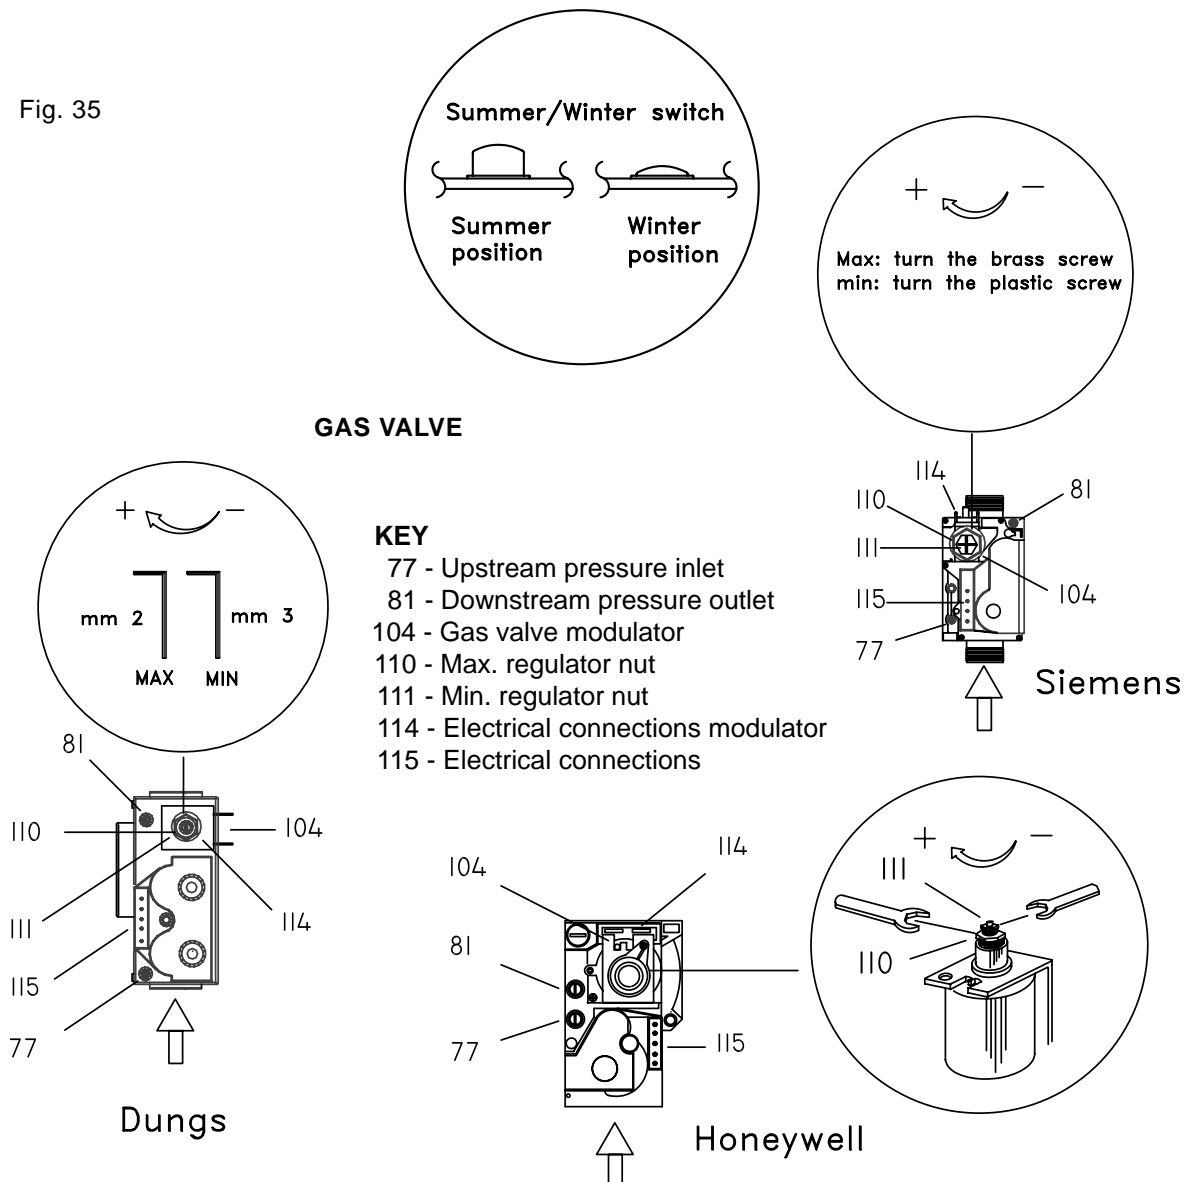
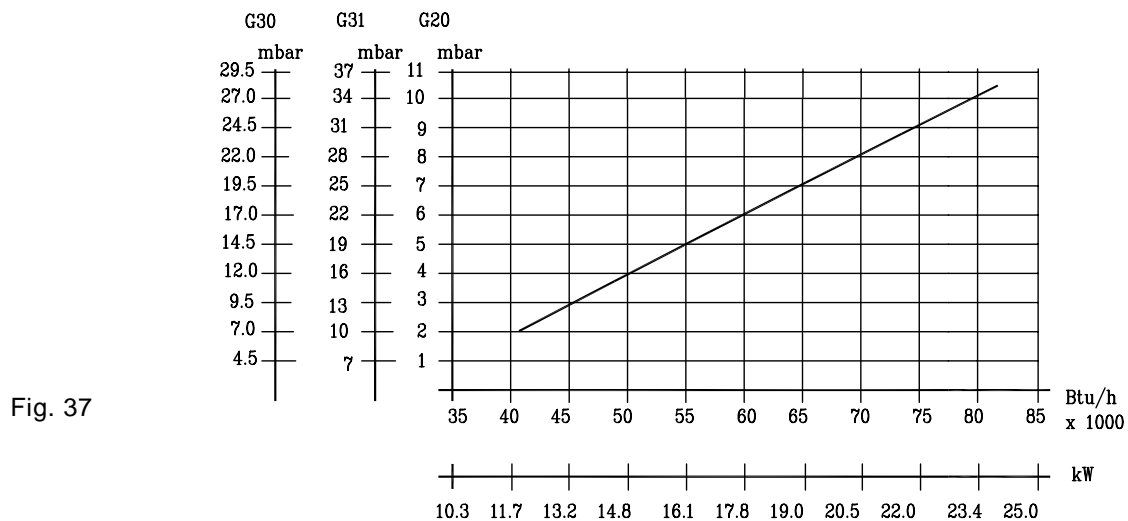

Fig. 36
Fig. 37
- Check gas mains pressure (fig. 37). Fit a gas pressure gauge on pressure inlet 77 (fig. 36) on the gas valve, after releasing the seal screw.
- Fit a pressure gauge, using a hose, to pressure test point 81 (fig. 36), after first loosening its close-off screw.
### ADJUSTING MINIMUM AND MAXIMUM PRESSURE (fig. 36)
- To obtain the desired heat value establish pressure as per (fig. 37).